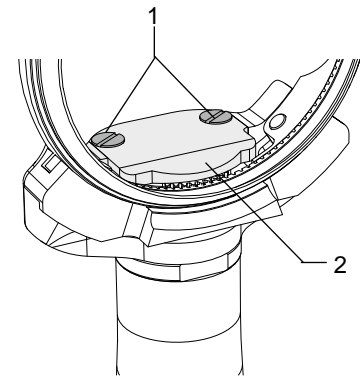
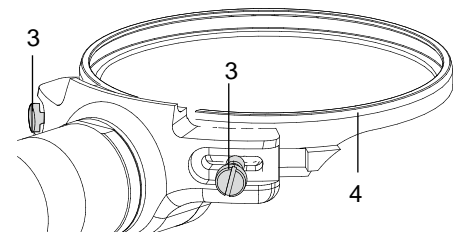

Fig. 8.1 – Removing the cover
Fig. 8.2 – Removing the screws
- 1) Remove both screws (1) of the gear unit cover (2) and retain them, see Fig. 8.1.
- 2) Removing the cover (2).
- 4) Loosen both screws (3) on the blade fixture (4) until the blade fixture can be removed, see Fig. 8.2.